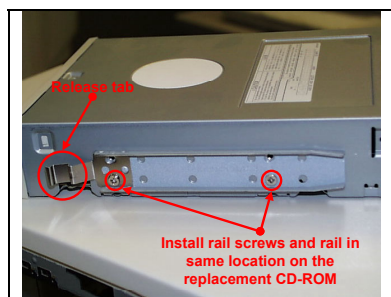

FIGURE IX.5
- 5) When it is completely out of the chassis you will notice that attached to each side of the CD-ROM is a guide rail. Rails must go back in the same way they were removed. Installing the wrong screws in a device can cause damage to the device's electronic circuits and or cause a fire. Use your dry erase markers to mark the rails where the screw goes and mark the screws so that you put them on the new CD-ROM exactly the same way. (see figure IX.5)